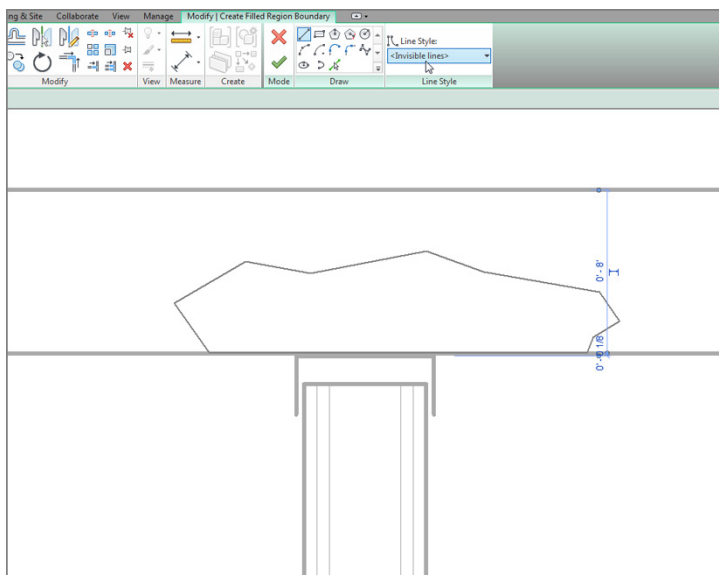

FIGURE 12.65: Draw the filled region with invisible lines.
2. In the Line Style panel, select <Invisible Lines>, as shown in Figure 12.65. On the Options bar, pick Chain.
3. Draw a boundary (see Figure 12.65), and press Esc.